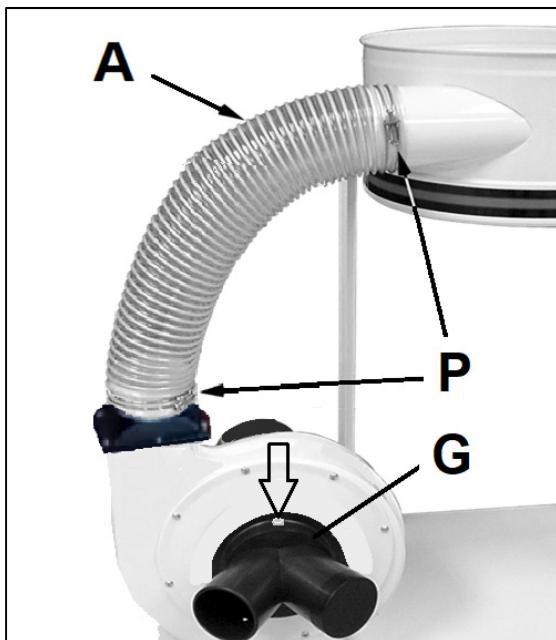

Fig 9
Attach the hose (A, Fig 9) with 2 provided hose clamps (P).